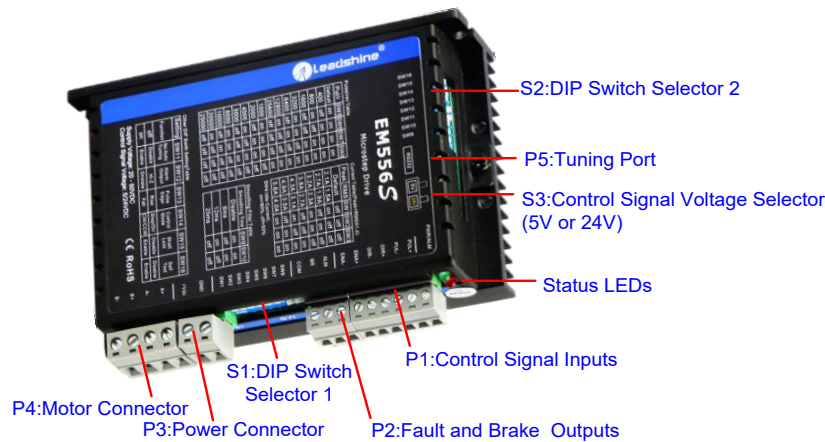

Figure 2 Connectors, DIP switches, and LED locations
DIR- (CCW-)	(6) The activated edge of PUL and DIR is set by DIP Switch SW13 (7) The factory setting of control signal voltage is 24V, must need to set S3 (figure 2) if it is 5V
ENA-	(3) ENA signal requires advance DIR signal minimum 5μs in single pulse mode (4) The default control signal voltage is 24V, to set S3 (figure 2) if it is 5V (5) Enable time to be at least 200ms
The EM556S can accept differential or single-ended control signals (pulse, direction, and enable) in open-collector or PNP connection through the P1 connector (figure 2). It is recommended to add an EMI line filter between the power supply and the drive to increase noise immunity for the drive in interference environments.
The first 8-bit is located on the side (DIP switch selector 1 in Figure 2) and used to configure settings of micro step resolution, output current, and motor standstill current as shown below, the factory setting of SW1-SW8 is OFF, OFF, OFF, OFF, OFF, OFF, ON, ON.
The second 8-bit DIP switch is located on the top (DIP switch selector 2 in figure 2), and used to configure settings of control command filtering time, motor auto-configuration, fault output impedance, pulse active edge, control mode, lock shaft, and self-test as shown below, the factory setting of SW1-SW8 is OFF, OFF, OFF, ON, ON, OFF, OFF, OFF.
The Third 1-bit selector is located on the top (DIP switch selector 3 in figure 2), used to configure the voltage of control signals. For the safety of optically coupled, the factory setting is 24V, which no need to connect 2K resistors like the old drives, making it easier to use. When the voltage of the control signal is 5V, the S3 must be set to 5V, otherwise, the motor won't work.